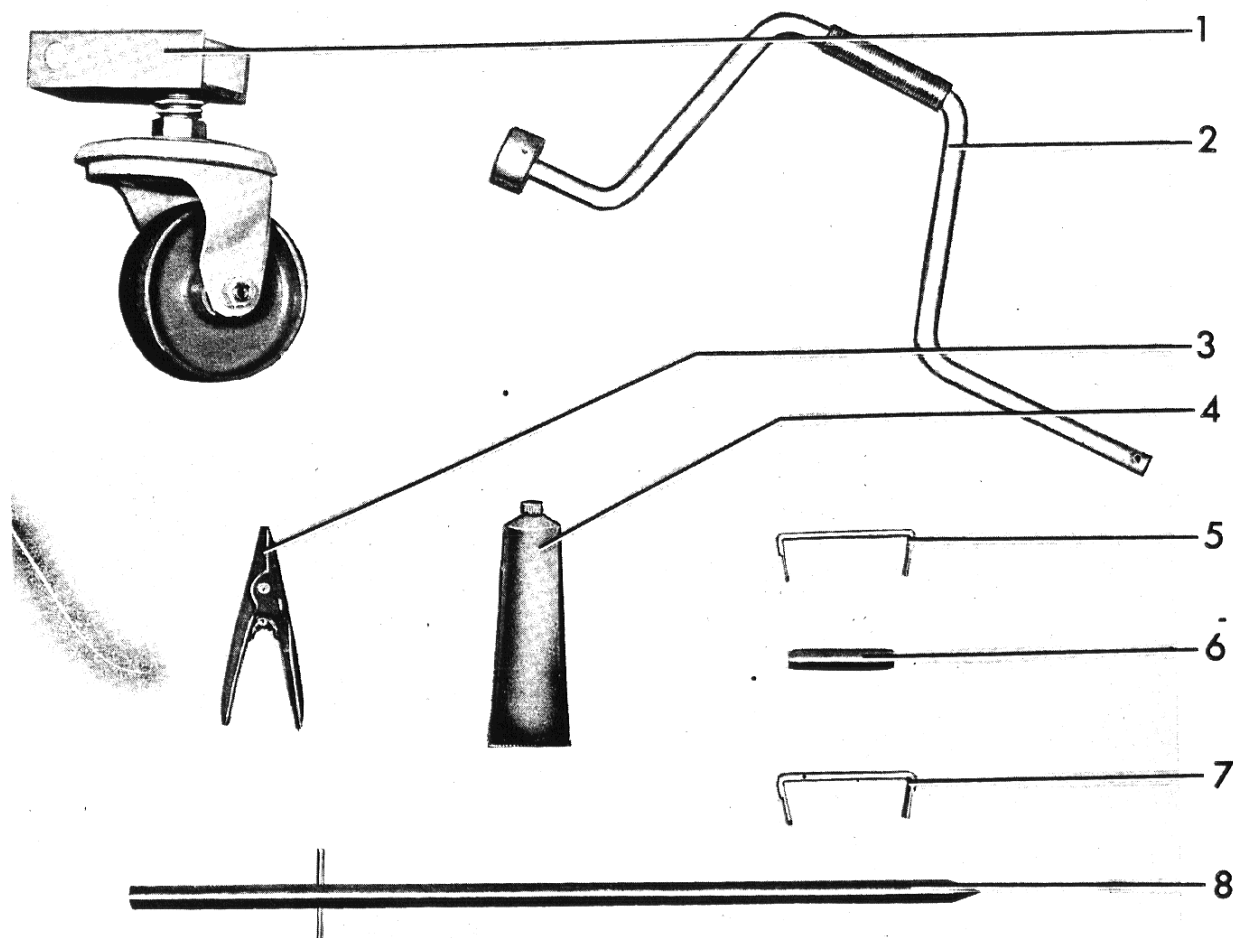

Figure 18. (8040360) Maintenance Kit
2. Insert short spring blocking pin (6) Fig. 18.